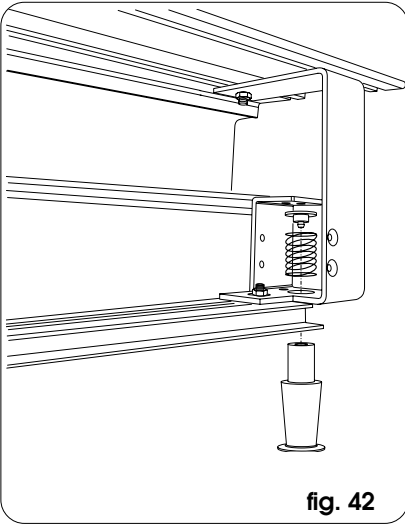

fig. 42
- Assemble the release knob on the side bracket opposite to the closing edge as shown in fig. 42 and 43.